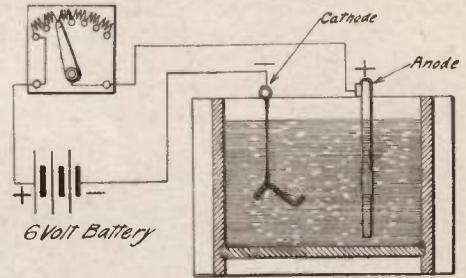

Fig. 4.
Connect the anode to the leading out terminal of a rheostat giving small variations, and the leading in terminal to the positive pole of some source of low voltage direct current, say 5 to 6 volts. Connect the cathode rods to the negative pole by a length of flexible lamp cord (Fig. 4).
In other lamps, cooling wings of metal are used to keep down the heat to the right point, but the new lamp uses a condensing bulb (Fig. 3) so that the vapor is cooled and condensed here to liquid. This gives a much better cooling. Fig. 4 shows the automatic device for working the lamp. When current is switched on, the tilting magnet B attracts its armature
- FIG. 4.-